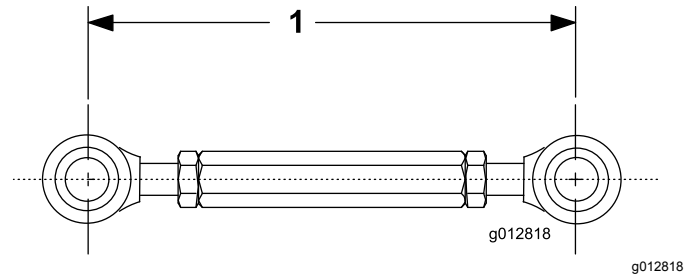

Figure 9
4. Adjust the length of the threaded link to 19 cm (7-1/2 inches) and tighten the jam nuts (Figure 9).